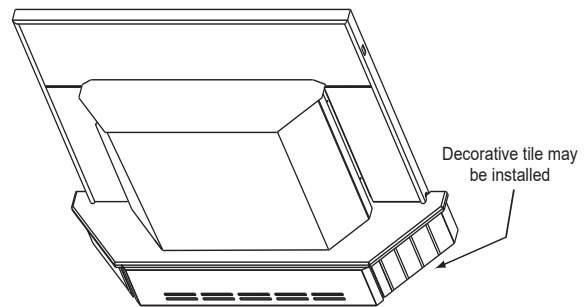

Figure 24.3
3. Measure front and side trims to required height to cover scissors and mark pieces for cutting. Cut excess material from top of trims edge, not bottom. This edge will be sharp; wear gloves to prevent injury to your hands (**Figure 24.3**).
**NOTE:** 3/8 inch (9.5mm) thick tile or like material can be cut to size and fit under lip of top trim edge for a decorative touch (**Figure 24.3**).